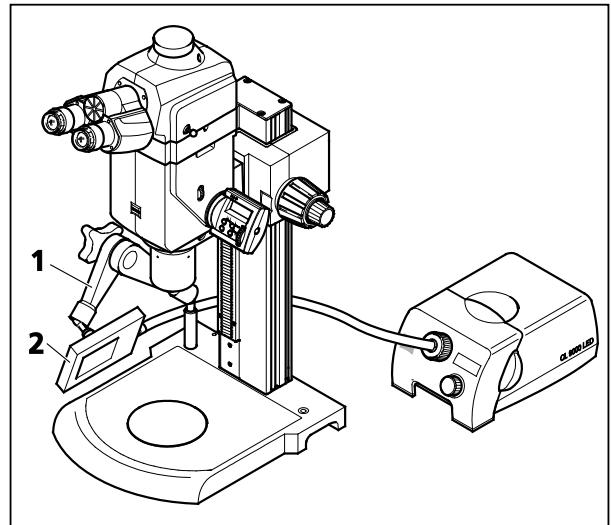

Fig. 43 Surface light M8
Fiber-optic surface light (Fig. 43/2)
- Slacken the articulated arm (Fig. 43/1).